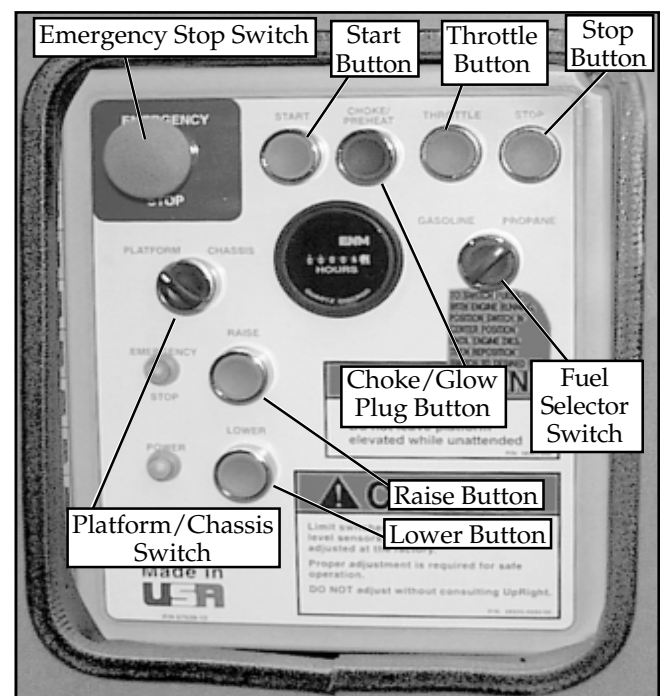

Figure 1: Chassis, Left Side
9. Place chassis and platform emergency stop switches in the ON position (Figure 1 & 2) by pulling the buttons out.
10. Verify platform/chassis switch is on **PLATFORM** (Figure 1).
8. Push the throttle button in. Push chassis raise button to elevate platform while pushing the tilt sensor (Figure 1) off of level. The platform should only partially elevate and the tilt alarm should sound. If the platform continues to elevate and/or there is no alarm **STOP** and remove the machine from service until it is repaired.
1. With engine running turn the fuel selector switch (Figure 1) to the center position.